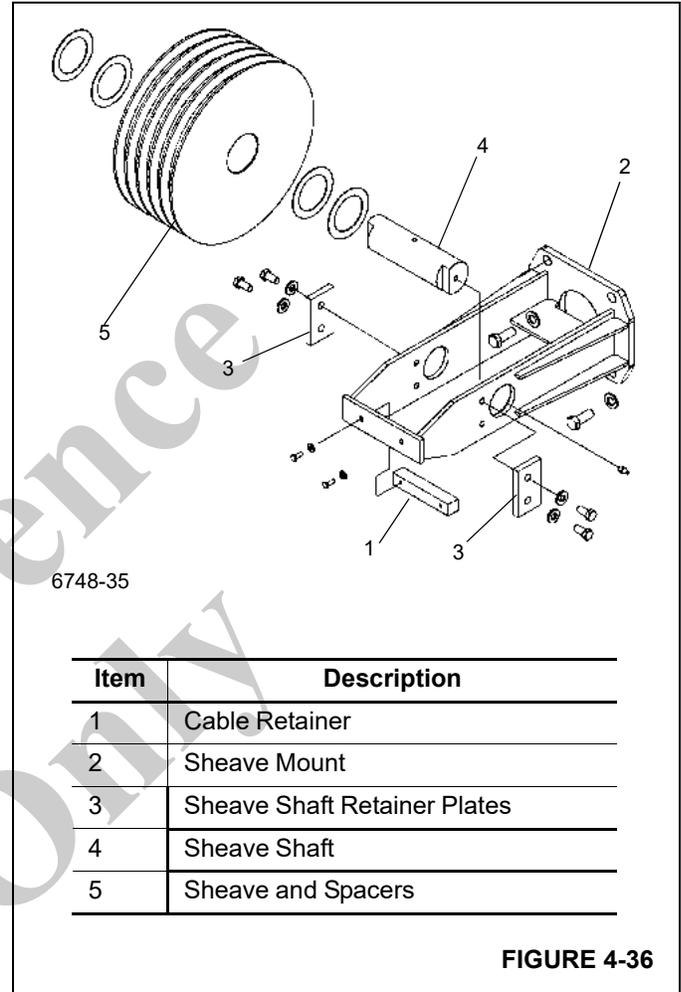

FIGURE 4-36
1. Remove the bolts holding the Cable Retainer (1), (Figure 4-36) to the Sheave Mount (2), (Figure 4-36). Remove the Retainer.
3. Remove the sheave shaft retainer plates (3), (Figure 4-36) from the left and right sides of the sheave mount.
4. Carefully pull the sheave shaft (4), (Figure 4-36) from the assembly, removing the spacers, and sheave (5), (Figure 4-36). **Note** the exact number of spacers you have for installation.
1. Refer to Figure 4-36. Clean and inspect the sheave assembly shaft bushing. Replace the bushing if damage is found.
3. Determine the number of spacers (5) required for the sheave shaft (4).
4. Apply a light coat of lubricant to the sheave shaft (4), (Figure 4-36).
6. Install the sheave shaft retainer plates (3) on the left and right sides with 2 capscrews and 2 washers in each plate.